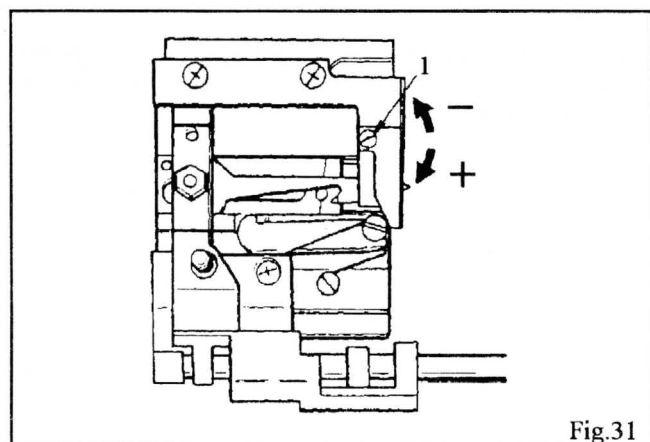

Fig.31
To adjust the length of thread end remaining on the underside of the material at start of sewing, tip machine back on its hinges and turn adjusting screw (1) as shown in Fig. 31.